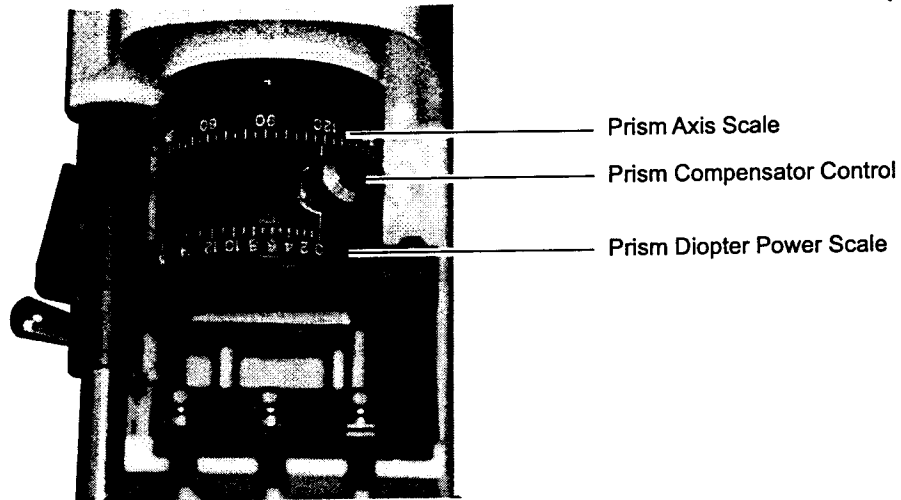

Fig. 10
2. Set the power wheel to the sphere power of the prescription. If there are more than 5 prism diopters at this point the target must be brought back into the field with the P.C. (Fig. 10) Rotate the P.C. control to bring the center of the target to coincide with the center of the graticule. Rotating the P.C. control about its own axis changes prism power. Rotating the P.C. control about the instrument optical axis changes the base direction. The red scale (0 - 15 prism diopters) signifies the base of the prism is "opposite" the base indicated on the prism axis scale. It is necessary, therefore, to add  $180^\circ$  to the reading indicated on the prism axis scale. The white scale signifies the prism base is as indicated on the prism axis scale.